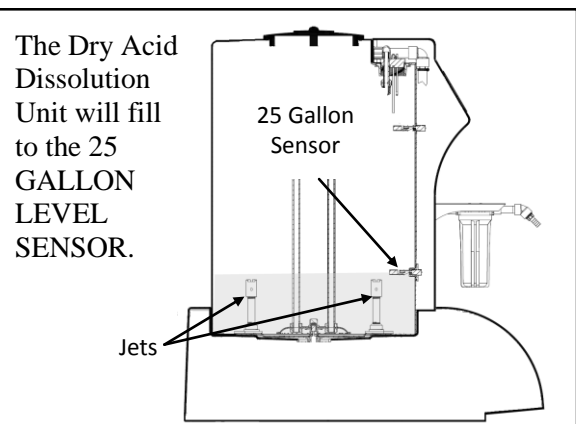

Figure 2
3. Once the 25 Gallon Sensor is reached (Figure 2), the Control Panel will advance to the first Recirculate Mode. With your safety glasses on, lift the Small Access Port Lid and check for correct Spray Ball operation. See section 5.5 for the illustration of correct and incorrect Spray Ball operation.